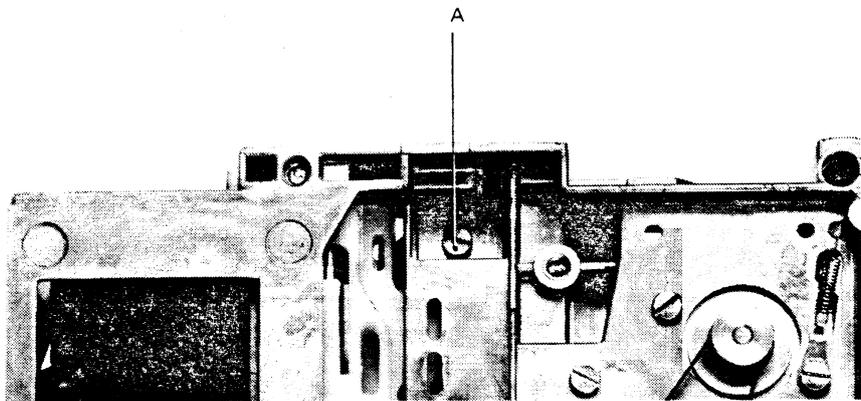
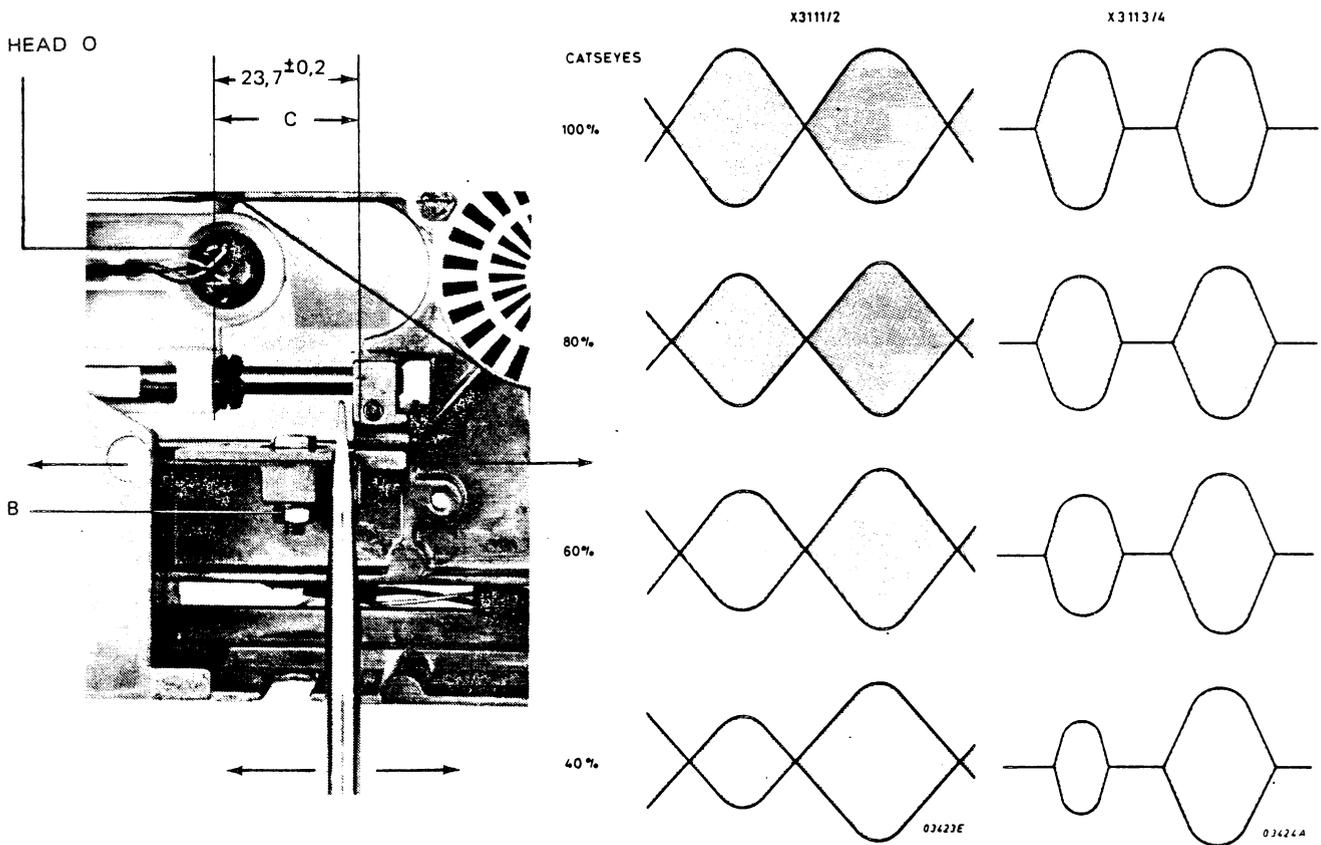

Figure 7.2 TRACK 0 SENSOR ADJUST
Figure 7.3 HEAD ALIGNMENT
## 7.2.4 HEAD ALIGNMENT (FIGURES 7.2 AND 7.3)
- b) Set track 0 sensor screw ('A', figure 7.2) and stepper motor nut ('B', figure 7.3) to the middle of their respective slots.
- e1,2) Step to tracks 16, 20 and 24 in turn. Note which track gives nearest picture to catseyes of figure 7.3. Step to that track.
- e3,4) Step to tracks 32, 36 and 40 in turn. Note which track gives nearest picture to catseyes of figure 7.3. Step to that track.
- b) Slacken TRACK 00 sensor (A, figure 7.2) and move it forward until voltage level at W23, just switch from a high level to a low level.